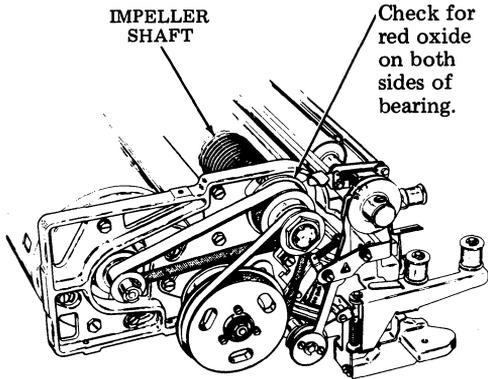

Fig. 32
5.06 Rotate impeller shaft and check that shaft rotates freely, with no binds in the two supporting bearings. Check both ends of shaft for any red oxide deposits near bearing area. (See Fig. 32.) If red oxide deposits are present, replace printer.